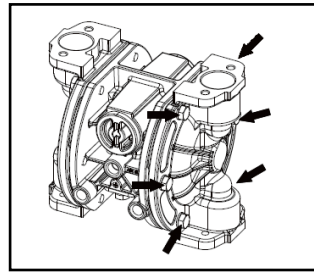

Figure 37
- Remove the 12 retainer bolts from the out chamber and remove the out chamber (See Figure 37).